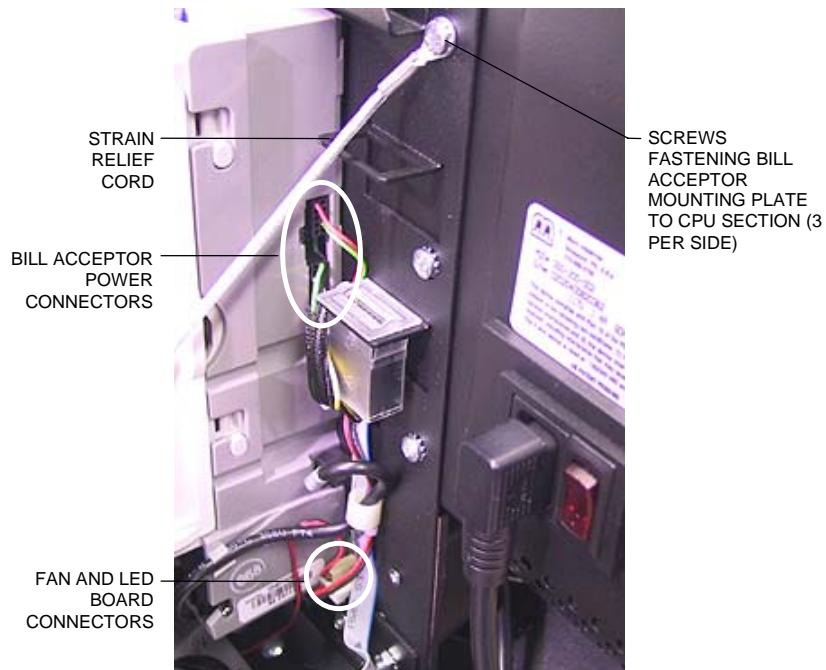

FIGURE 15 - REAR VIEW OF BILL ACCEPTOR MOUNTING PLATE
7. **EVO only:** Disconnect the bill acceptor power connectors, as well as the fan and LED board connectors (see Figure 15).
8. Remove the 6 screws fastening the bill acceptor mounting plate to the CPU section (see Figure 15). One screw also fastens the strain relief cord. Once the screws are removed, pull the harnesses attached to the CPU section through the access hole in the bill acceptor mounting plate so the CPU section can be pulled free of the bill acceptor. Disconnect the IEC power connector from the CPU section, then place the CPU section down with the touchscreen side facing up.
4. Reconnect the IEC power connector on the CPU section, then route the harnesses from the CPU section back through the access hole in the bill acceptor mounting plate. Use the 6 screws to reattach the plate to the CPU section (see Figure 15) and fasten the strain relief cord.
5. Reconnect the bill acceptor power connectors, as well as the fan and LED board connectors (see Figure 15).